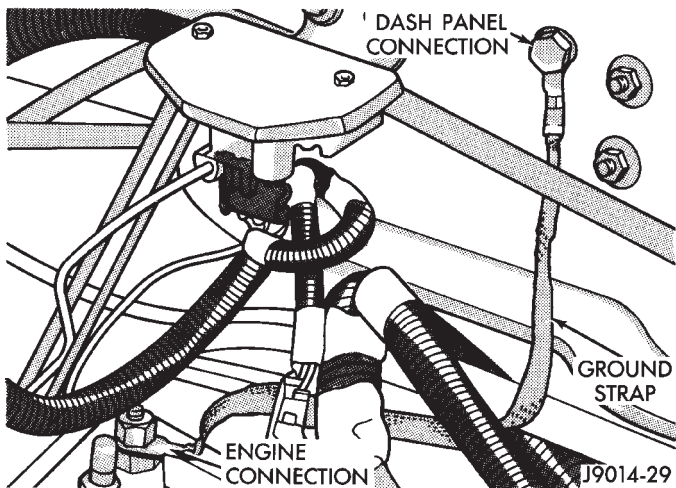

Fig. 21 Engine Ground Strap Connections—Typical
(18) Inspect engine ground strap connections at dash panel and rear cylinder head bolt (Fig. 21).